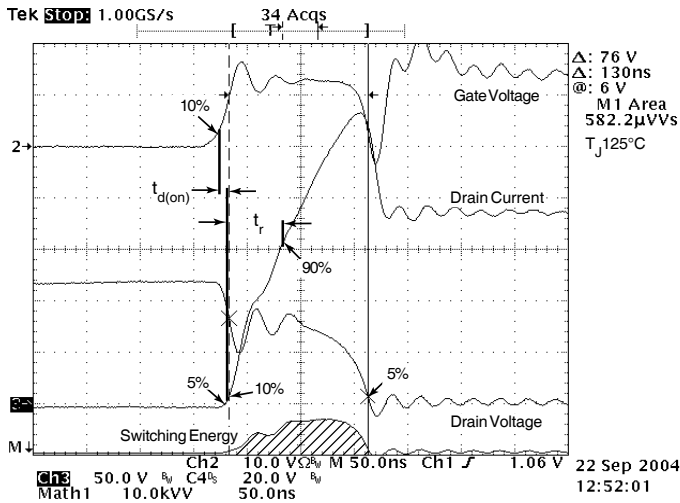

Figure 18, Turn-on Switching Waveforms and Definitions
① Repetitive Rating: Pulse width limited by maximum junction temperature
② Pulse Test: Pulse width < 380 μs , Duty Cycle < 2%
③ See MIL-STD-750 Method 3471
④ Starting $T_J = +25^\circ C$, $L = 0.470mH$, $R_G = 25\Omega$, Peak $I_L = 74A$
⑤ dv/dt numbers reflect the limitations of the test circuit rather than the device itself. $I_S \leq -I_{D74A}$ $di/dt \leq 700A/\mu s$ $V_R \leq V_{DSS}$ $T_J \leq 150^\circ C$
⑥ E_{on} includes diode reverse recovery. See figures 18, 20.